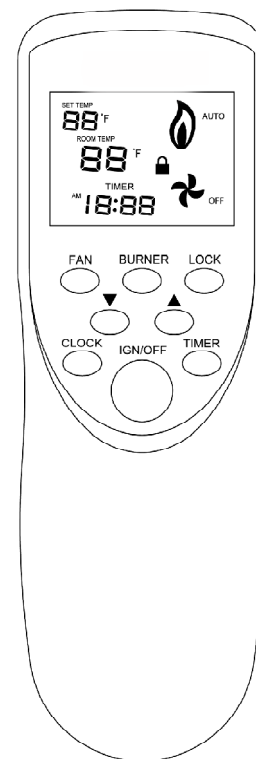

Fig 12 - Front of the Transmitter
1. Press the IGN/OFF button. (See fig 12)
when the burner is in a state of key-press locking, first press ▼, then press LOCK button to unlock it (Child proof-See Fig 12)
There are three selections: "AUTO" "MAN" and "OFF". When pushing the "FAN" button on the "AUTO" select, the fan will be controlled by the thermostat on the fan blower unit. On the "MAN" select, the fan will be kept in operation. To stop the operation, push the "FAN" button to "OFF" select. (See Fig 12)